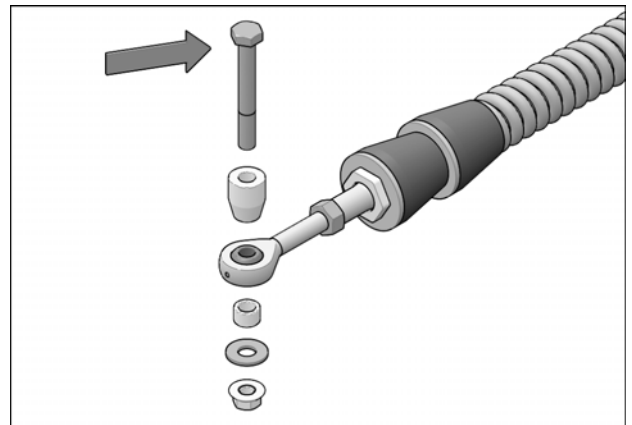

Fig. 3
- Remove bolt, washer and spacer bushings from rear stabilizing rod end. See Fig. 3